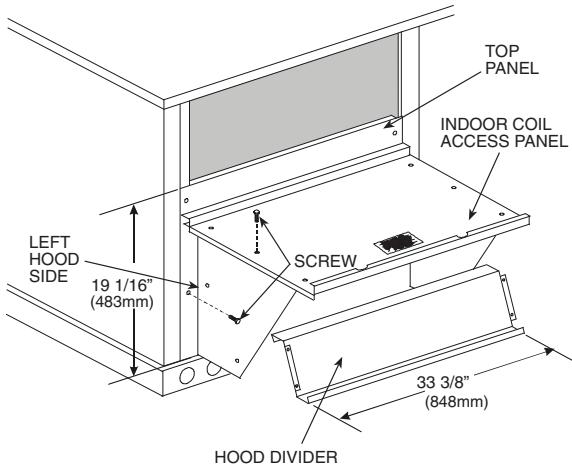
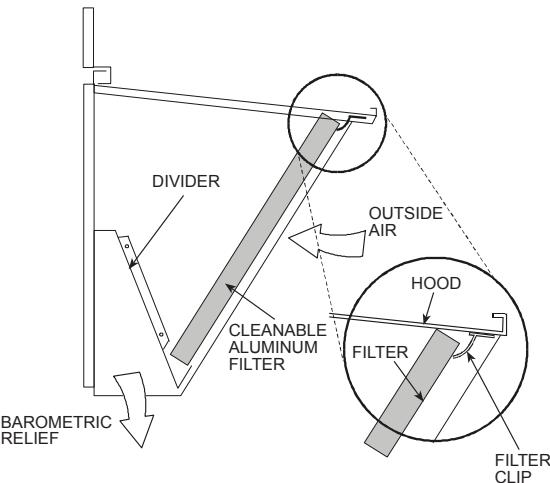

Fig. 16 — Economizer Hood Construction
Fig. 17 — Economizer Filter Installation
2. Swing out indoor coil access panel and insert the hood sides under the panel (hood top). Use the screws provided to attach the hood sides to the hood top. Use screws provided to attach the hood sides to the unit. See Fig. 16.
4. Insert the hood divider between the hood sides. See Fig. 16 and Fig. 17. Secure hood divider with 2 screws on each hood side. The hood divider is also used as the bottom filter rack for the aluminum filter.
5. Open the filter clips which are located underneath the hood top. Insert the aluminum filter into the bottom filter rack (hood divider). Push the filter into position past the open filter clips. Close the filter clips to lock the filter into place. See Fig. 17.